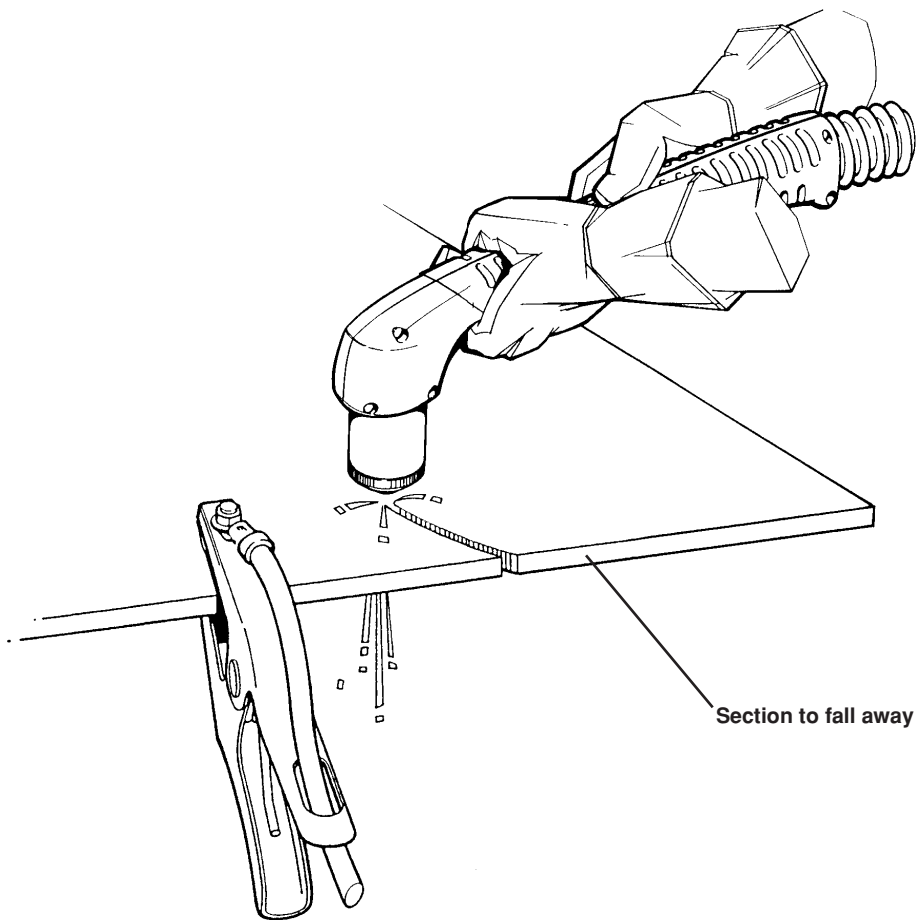

Figure 3-9 Proper Work Clamp Connection
2. Do not attach the work clamp to the section of the workpiece that will fall away (see Figure 3-9).